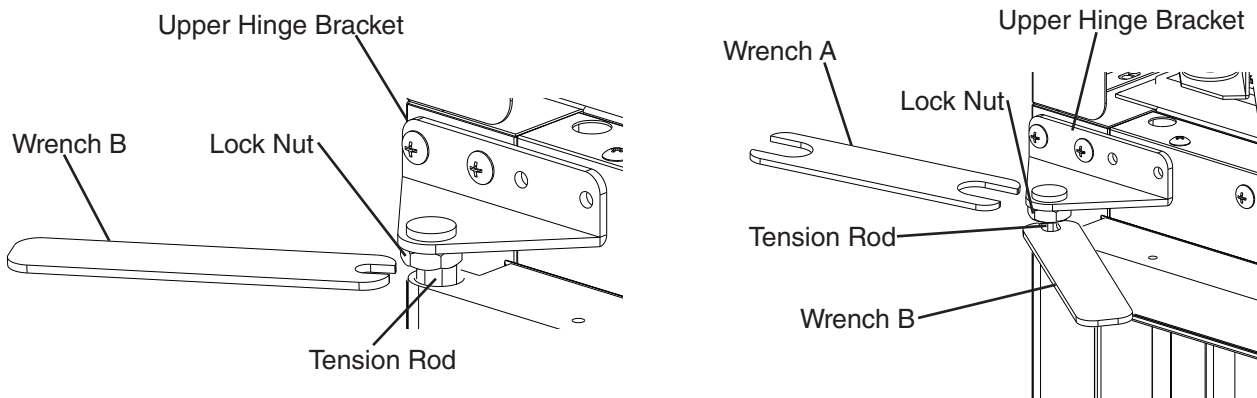

**Fig. 49**
18) Open the door and connect the lower hinge arm to the lower hinge bracket. See Fig. 49.